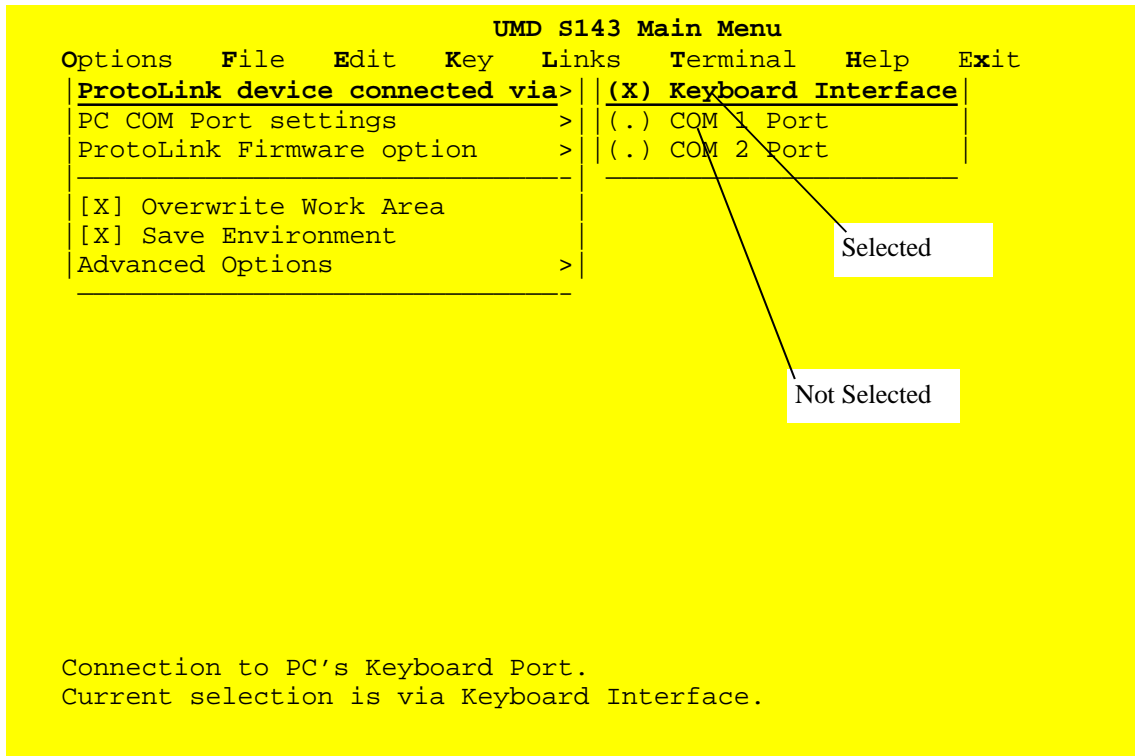

Figure 6
Next open the “ProtoLink device connected via” menu item by pressing the DOWN ARROW (↓) to highlight it and then pressing the RIGHT ARROW (⇒) or ENTER (↵) keys to open it. The screen in figure 6 is displayed. Use the UP (↑) and DOWN (↓) ARROW keys to highlight the desired option and select it by pressing ENTER (↵) or SPACE BAR keys. An (X) mark appears next to the selected item. For example, if you have connected the UMD ProtoLink Product using the PC’s Keyboard Interface, then select the “Keyboard Interface” option as shown.